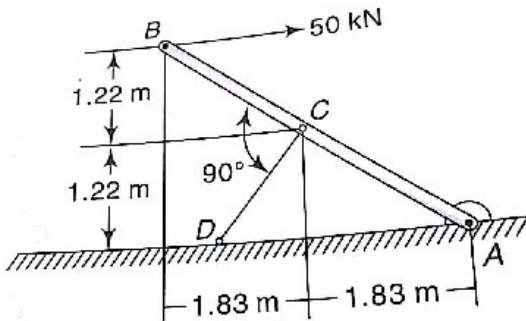

Figure 2.13
14. A bar AB hinged to the foundation at A and supported by a strut CD is subjected to a horizontal 50kN load at B, as shown in Figure 2.13. Find the tensile force S in the strut and the reaction R_A .